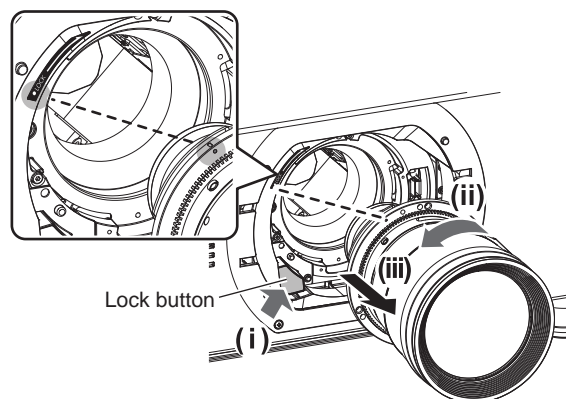

Fig. 1
3) While pressing the lock button, remove the projection lens by turning it counterclockwise. (Fig. 1)